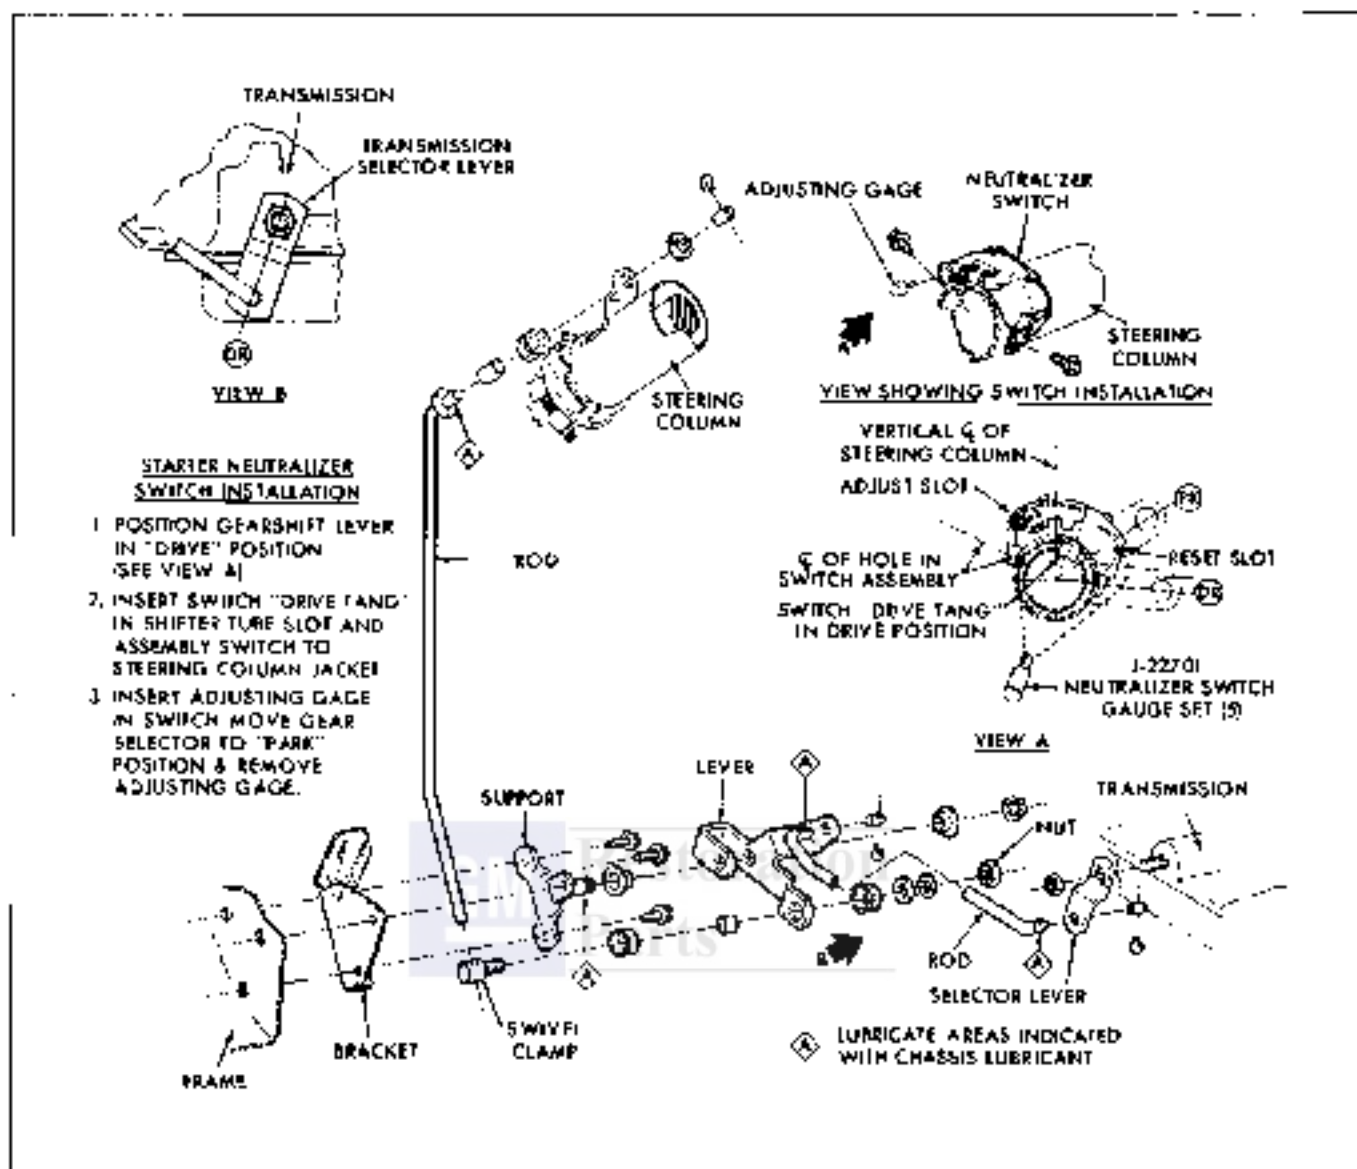

Fig. 7F-6 Firebird Column Shift Linkage
3. Pull vacuum modulator (Fig. 7F-15) and valve assembly (Fig. 7F-16) out of case bore.